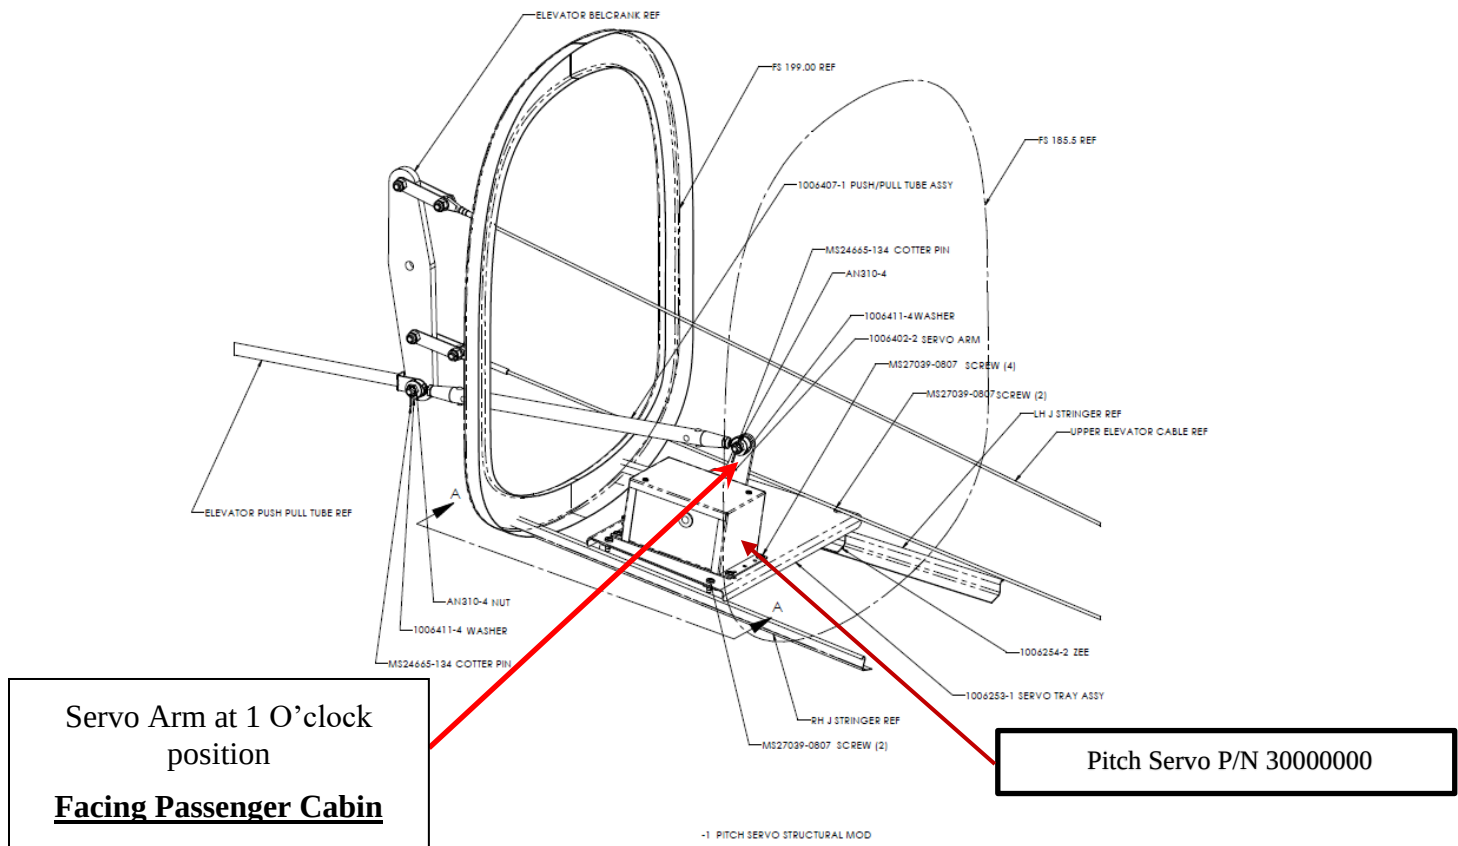
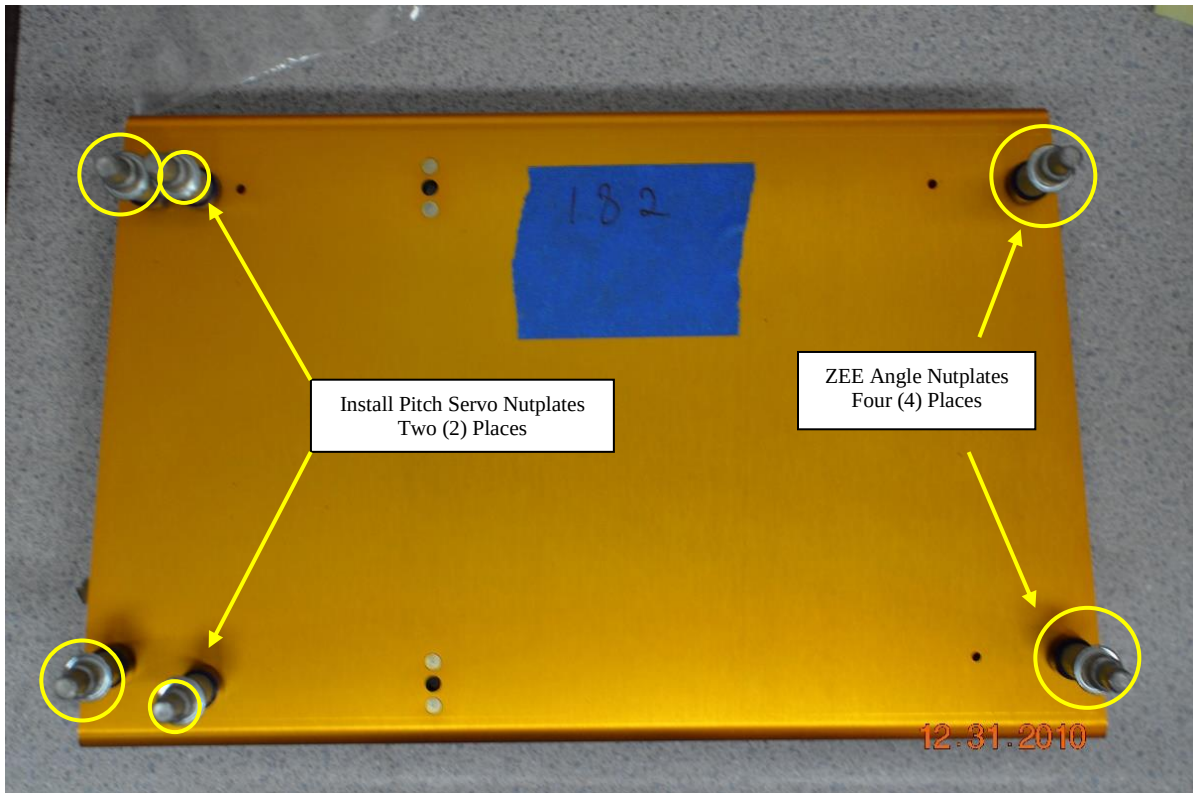
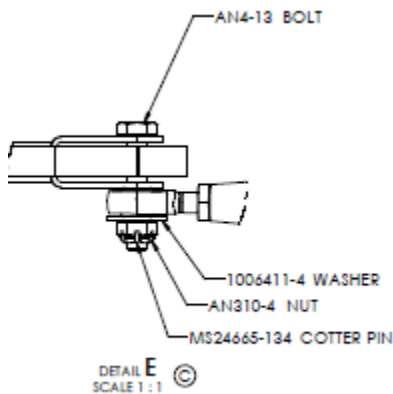
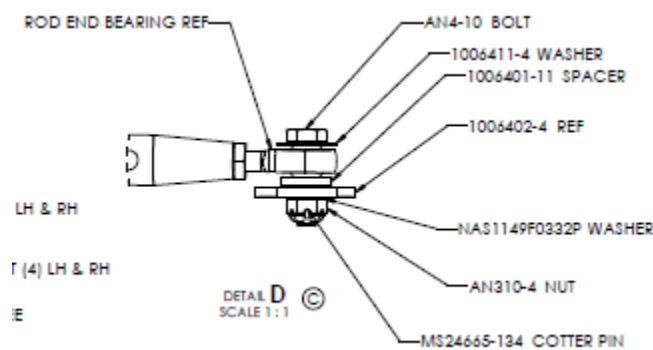

FIGURE 3-1 TRIO PRO PILOT PITCH SERVO INSTALLATION
Figure 3-2 PITCH SERVO TRAY ASSEMBLED
FIGURE 3-12 BELLCRANK INSTALLATION
FIGURE 3-13 SERVO SIDE INSTALLATION
4. With the elevators locked into the neutral position the servo arm, P/N 1006402-4 / -6 / -9 must be positioned facing forward towards the passenger cabin at approximately the 1 o'clock position as a coarse adjustment. Refer to Figure 3-1.
9. To Exit the Maintenance Setting screens, **press and hold** the Encoder Knob for three (3) seconds or power off the autopilot.
11. Install the push/pull tube on the pitch bellcrank (Figure 3-12), cleco the pitch tray to the ZEE brackets (Figure 3-2), position the pitch servo on the tray and temporarily connect the push/pull tube to the servo arm (Figure 3-13).
The pitch servo tray, P/N 1006253 has been re-designed to accommodate all Cessna 180, 182, and 185 models. Refer to Figure 3-2.
6. Attach the push pull tube to the elevator idler bellcrank using the hardware supplied in the pitch servo kit. Refer to Figures 3-1 & 3-12.
7. Attach the push pull tube to the servo arm using the hardware supplied. Refer to Figure 3-13.
10. With the elevators locked into the neutral position the servo arm, P/N 1006402-4 / -6 / -9 must face forward towards the passenger cabin at approximately the 1 o'clock position as a coarse adjustment. Refer to Figure 3-1.